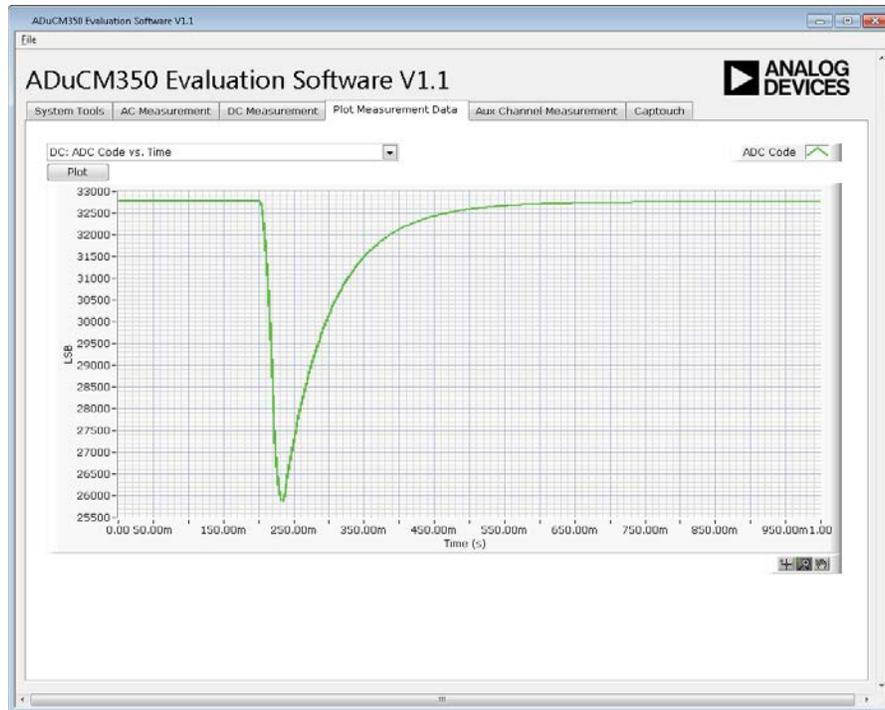

Figure 6. ADuCM350 LabVIEW GUI—Plotting ADC Results
- Go to the **Plot Measurement Data** window and select the required plot. In this example, **DC: ADC Code vs. Time** is plotted (see Figure 6).
From actual measurements on the ADuCM350, Figure 6 plots the settling time in ADC LSBs from ~25900 codes to 32768 codes (midscale).
Figure 6 shows an actual measurement that takes ~65.6 ms to reach 63.2% of final settling voltage of midscale.